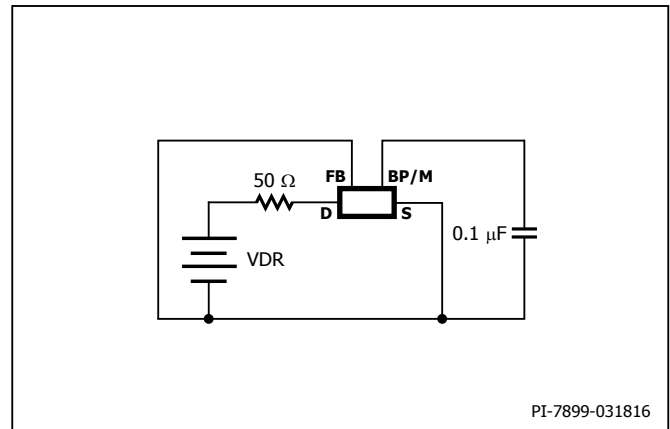

Figure 12. LinkSwitch-TN2 Minimum On-Time Test Circuit.
- Measured using circuit in Figure 12 with 50 Ω drain pull-up. The width of the drain pulse is measured as the time from $V_{FALL} = 42$ V to $V_{RISE} = 40$ V (VDR = 50 V), for LNK32x6/x5/x4 and as the time from $V_{FALL} = 32$ V to $V_{RISE} = 30$ V on rising edge (VDR = 35 V), for LNK3202.